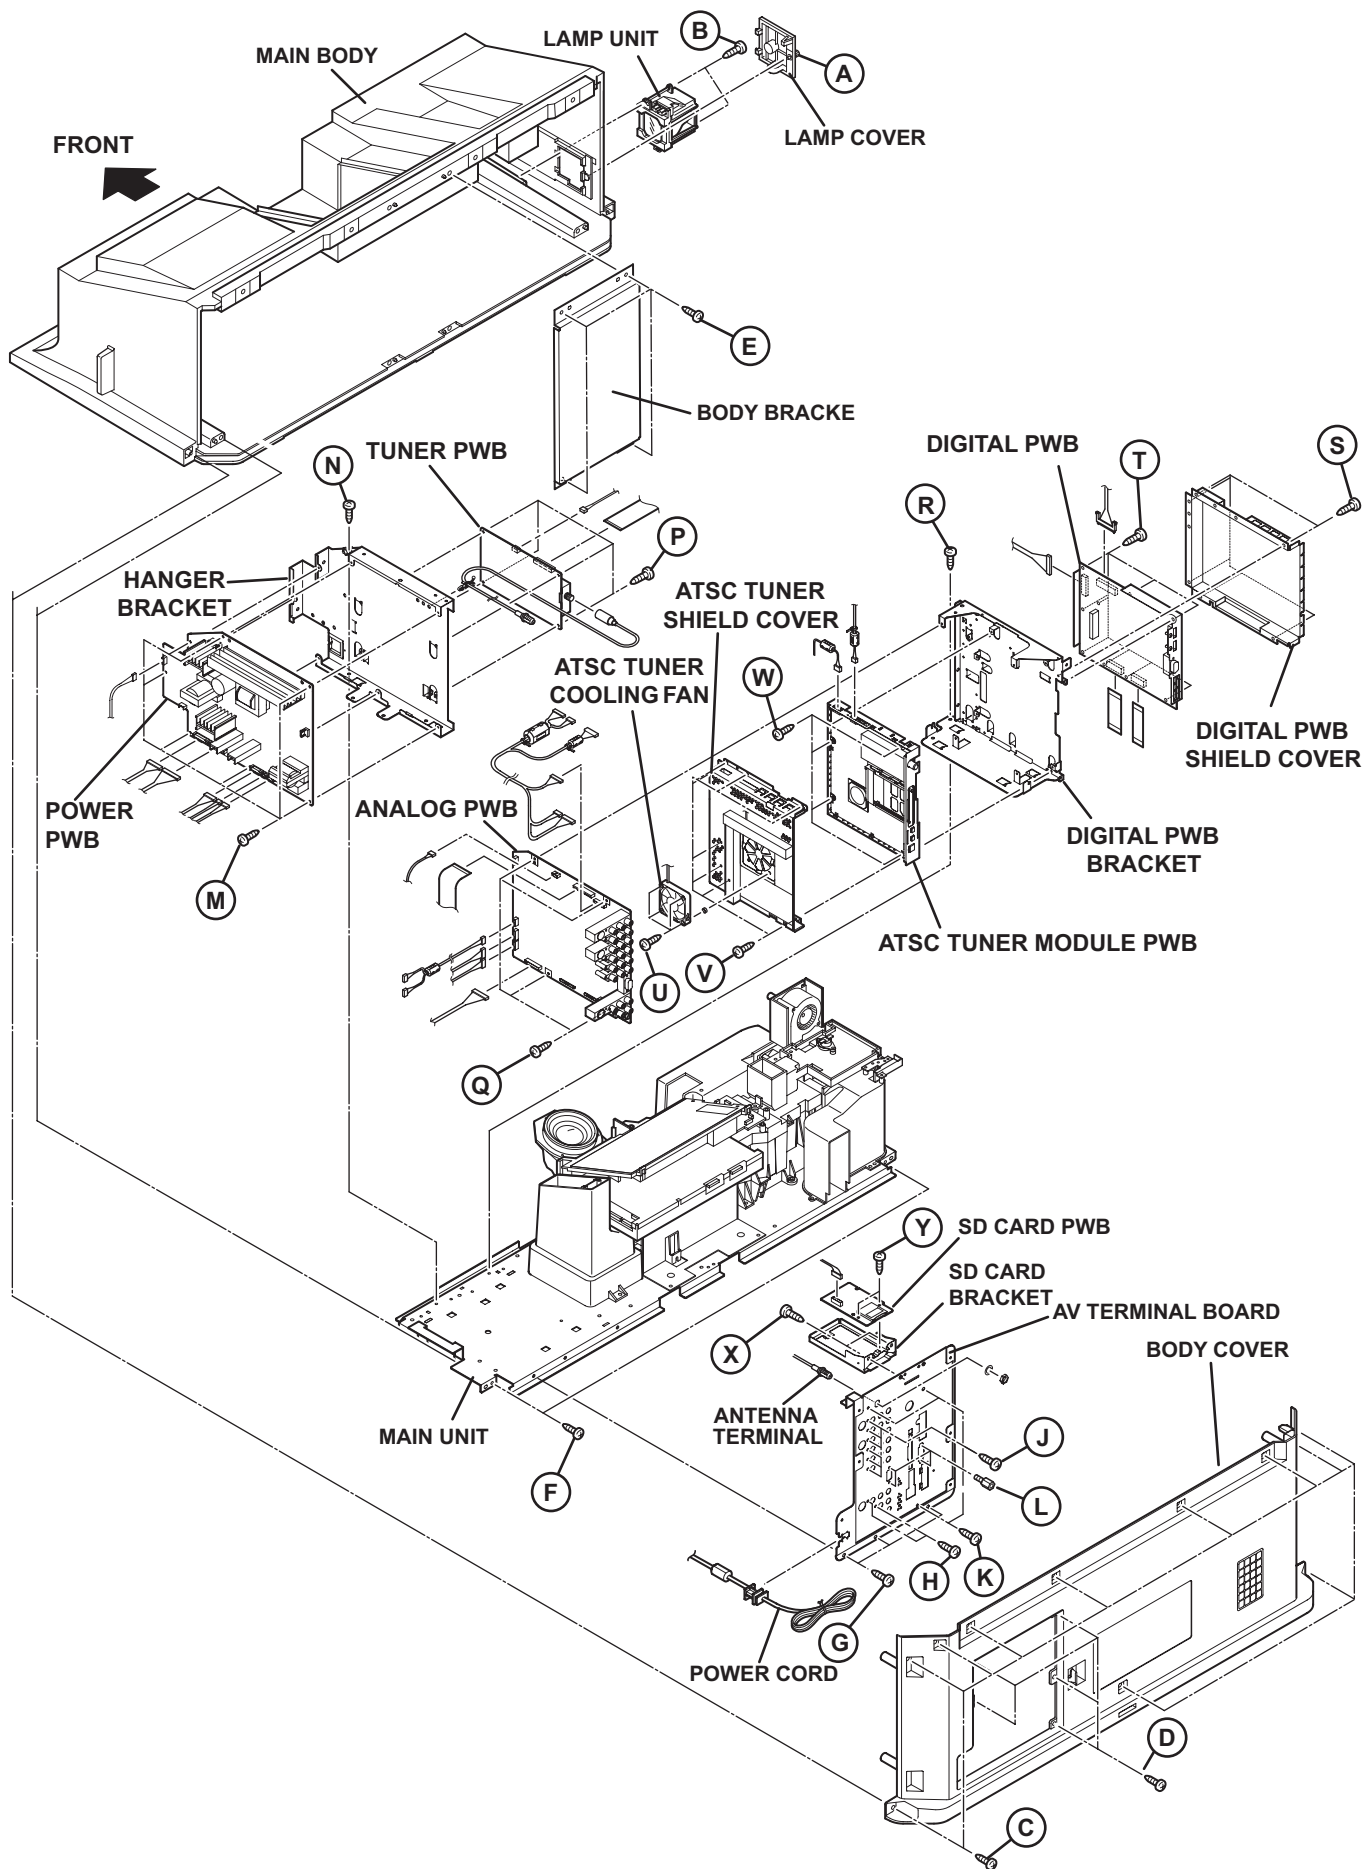

Fig.7
3.1.4.4 REMOVING THE AV TERMINAL BOARD (Fig.7)
3.1.4.5 REMOVING THE POWER PWB (Fig.7)
3.1.4.6 REMOVING THE TUNER PWB (Fig.7)
3.1.4.7 REMOVING THE ANALOG PWB (Fig.7)
- (1) Remove the 4 screws [Q].
- (2) Remove the ANALOG PWB.
3.1.4.8 REMOVING THE DIGITAL PWB (Fig.7)
3.1.4.9 REMOVING THE ATSC TUNER MODULE PWB (Fig.7)
3.1.4.10 REMOVING THE SD CARD PWB (Fig.7)
3.1.4.11 REMOVING THE IRIS PWB (Fig.7)
- (1) Remove the 2 screws **[Z]**.
- (2) Remove the IRIS PWB.
3.1.4.12 REMOVING THE REMOCON PWB (Fig.7)